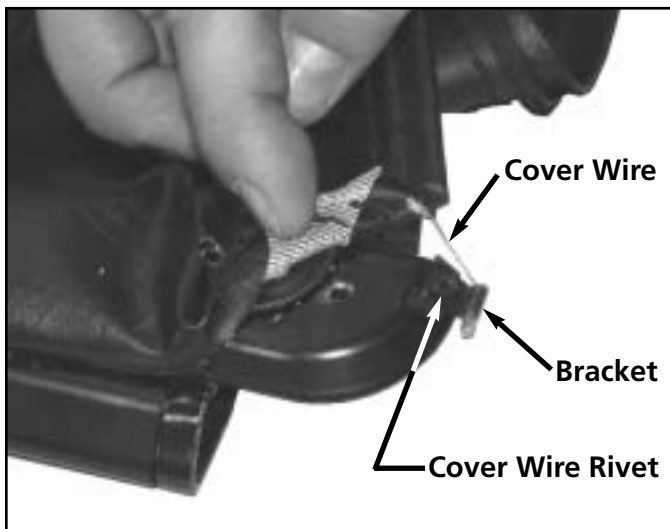

Figure S-60
10. Lift the side of the tonno cover at the rear reinforcement to expose the cover wire rivet. See figure S-60.